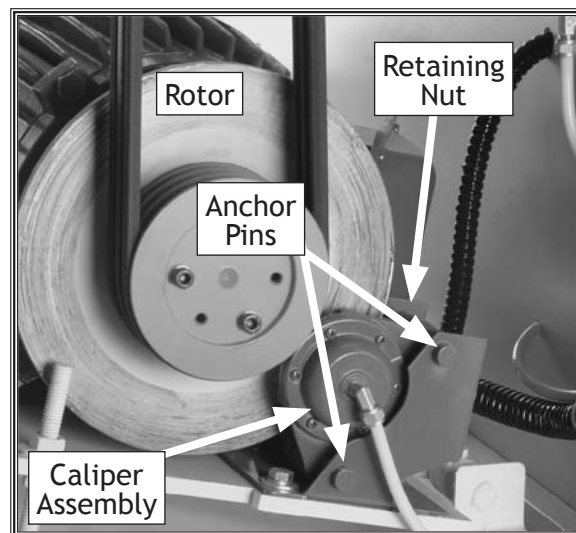
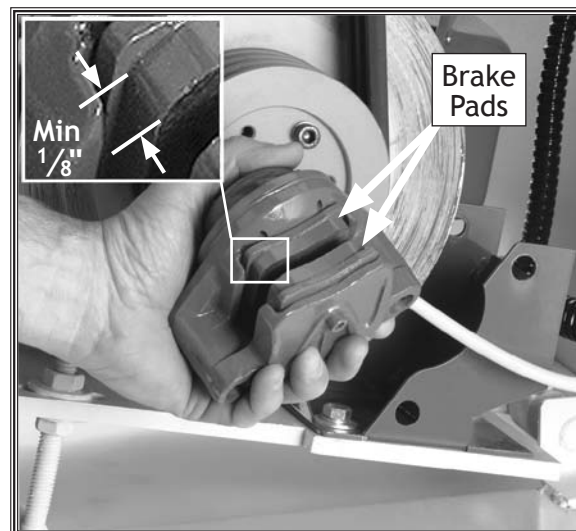

Figure 36. Brake assembly.
Figure 37. Brake caliper removed for access to brake pads.
Check the brake rotor (shown in **Figure 36**) regularly to make sure it is clean and the pads are still in good condition (thicker than $\frac{1}{8}$ ", see **Figure 37**). Using the emergency stop system for daily machine shutdown will wear out the sanding belts and the brake pads. Inspect for any grease or oil on the brake rotor as oil reduces emergency braking ability. To clean any lubricants from the rotor, only use automotive brake parts cleaner and a dry rag. Replace brake shoes if they are contaminated with oil. DO NOT re-use!
2. Use a 14mm wrench and remove the two caliper anchor pin retaining nuts and washer (see **Figure 36**).
3. Use locking pliers to clamp on the anchor pin end and pull the pin from the caliper mount, and remove the springs and caliper (see **Figure 37**).